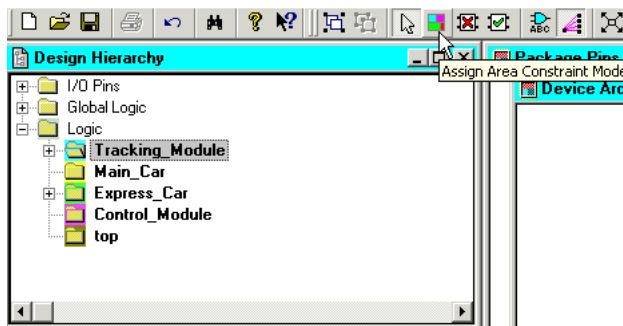

Figure 4: Creating an Area Group Using the Assign Area Constraint Mode Icon
5. Create an Area Group for each Logic Group. Highlight one of the Logic Groups in the Hierarchy window and then click on the Assign Area Constraint Mode Icon (Figure 4).